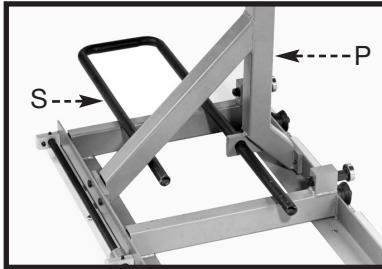

Fig. 30
5. Insert the long end of the handle (S) Fig. 30 through the hole in the table support frame (P).